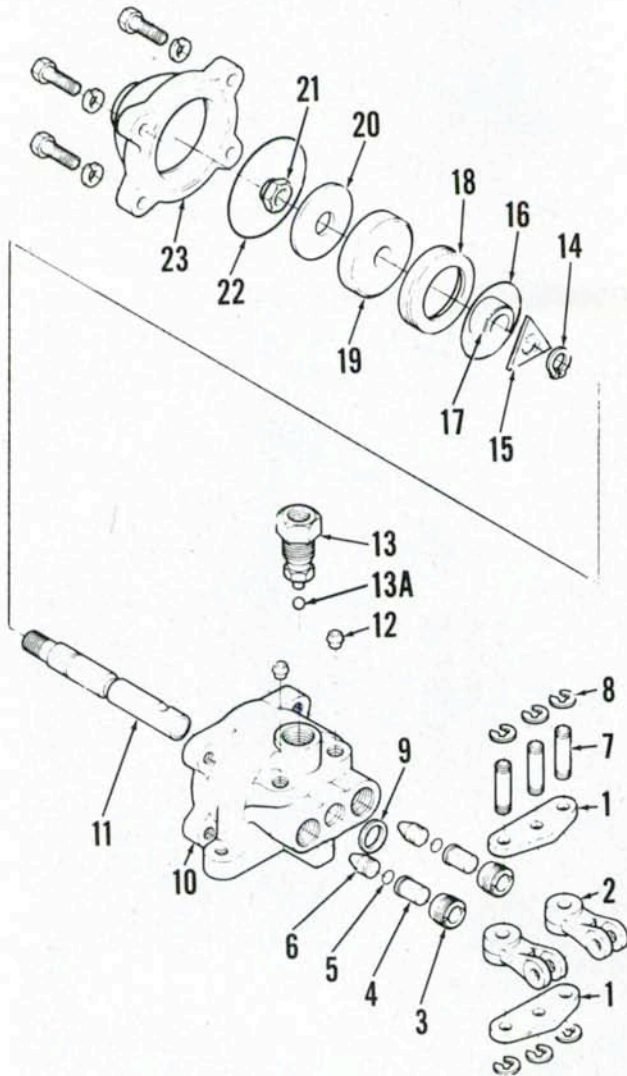

Fig. 249—Exploded view of power brake valve used on Model TW-35.
To disassemble, remove check valve (13—Fig. 249) and ball (13A) from valve body. Remove rocker arm assembly (1) by removing retaining rings (8) and retaining pins (7). Unbolt and remove cap (23), then withdraw valve spool assembly. Remove locknut (21), washer (20), seal retainer (19), actuating piston (18), spacer sleeve (17), and spacer (15). Apply heat to directional valve retainers (3) to loosen thread locking compound, then use a spanner socket (Tool No. 7445) or other suitable tool to remove the retainers. Remove valve plungers (4), then force directional valve needles (6) and "O" rings (5) from valve body with a small punch.